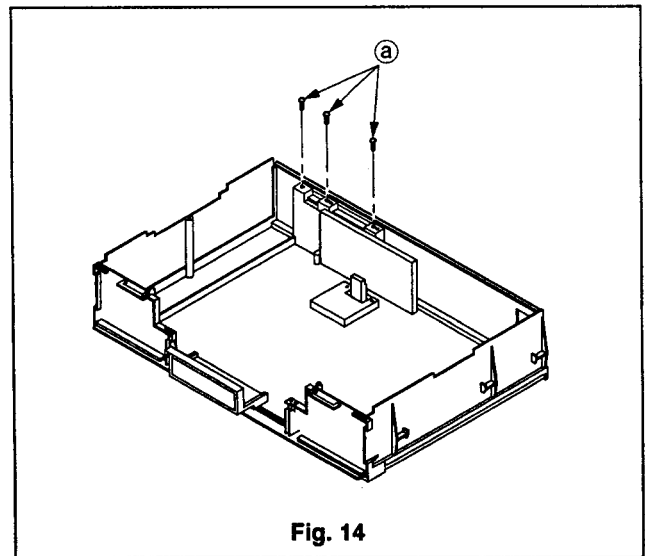

Fig. 14
4. Remove the three screws (ⓐ) shown in Fig. 14.